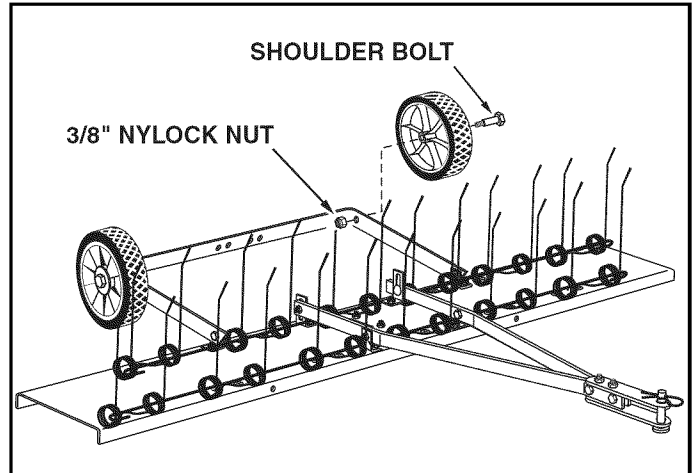

FIGURE 6
- Assemble the wheels to the axle bracket using two shoulder bolts and two 3/8" nylock nuts. **Tighten.** See figure 6.